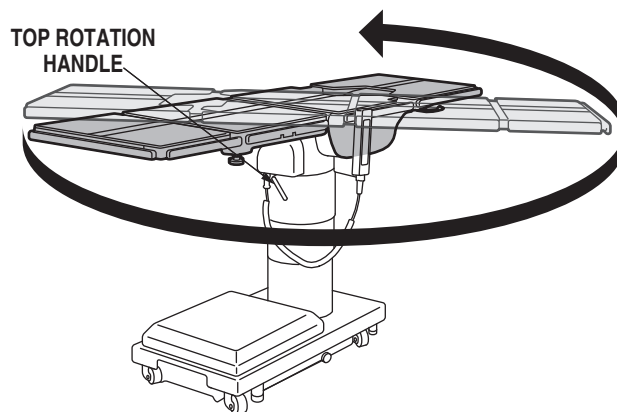

Figure 2-23. Top Rotation
a. The table top can be horizontally rotated 210° without having to rotate the entire table. Refer to figure 2-23. To rotate the top, turn the TOP ROTATION LOCK HANDLE counterclockwise to release, grasp the table by the head end and rotate the top counterclockwise. Lock the top in position by tightening the TOP ROTATION LOCK HANDLE clockwise.